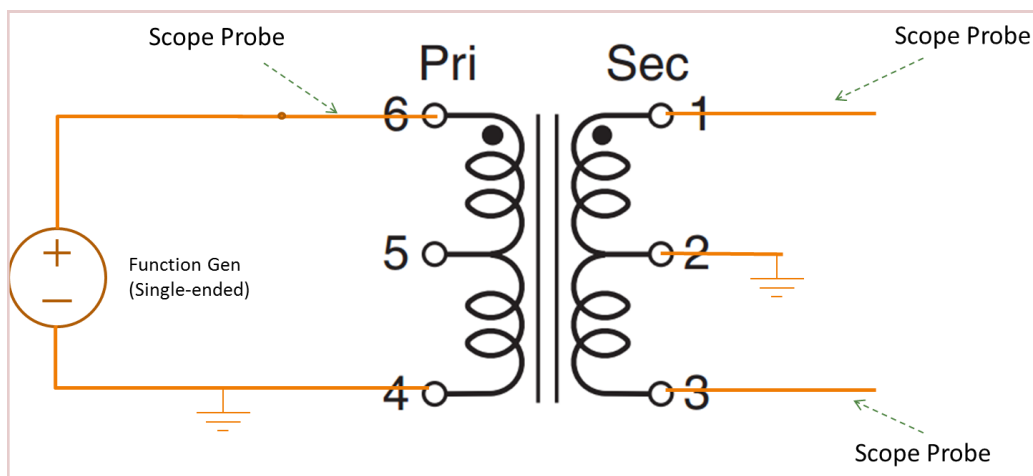
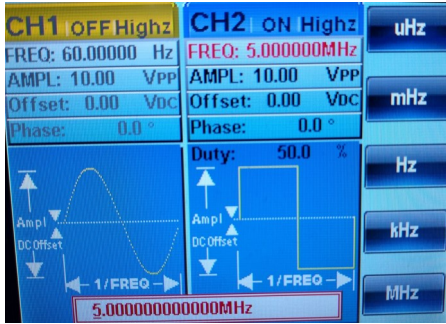
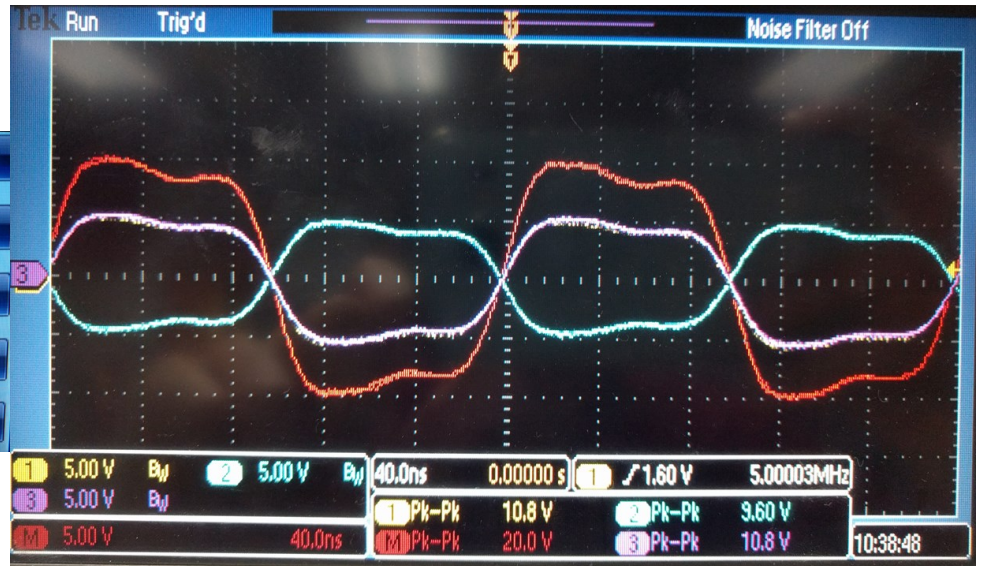

Figure 34. Set-up for post-lab #4 with 3 total scope probes.
Figure 35. Function gen set-up .
Figure 36. Oscilloscope set-up. See text for all the details.
4. Next, we will use the transformer to create two opposite (differential) signals. Add two scope probes to the circuit as shown in Fig. 34. Set up the function generator to output a 10 Vpp square wave with a frequency around 3-5 MHz. This is quite high and the edges are rounded due to the rise time of the function generator. The function generator screen is shown in Fig. 35.
5. The oscilloscope screen has a lot going on in Fig. 36 and needs to be carefully explained. Three probes are used and connected as shown in Fig. 34. Trace #3 is the scope probe connected on the primary side. Trace #1 and #2 are connected on the secondary side. Notice that it's hard to see trace #1 because trace #3 is directly on top of it. The red trace, is the math channel. You need to set up the math function for trace #1 minus trace #2 to get the red trace. This is the combined differential signal. Finally, set up peak-to-peak measurements on all the channels including the math channel. If you did this correctly, the screen will appear similar to Fig. 36. **(Picture and measurements)**